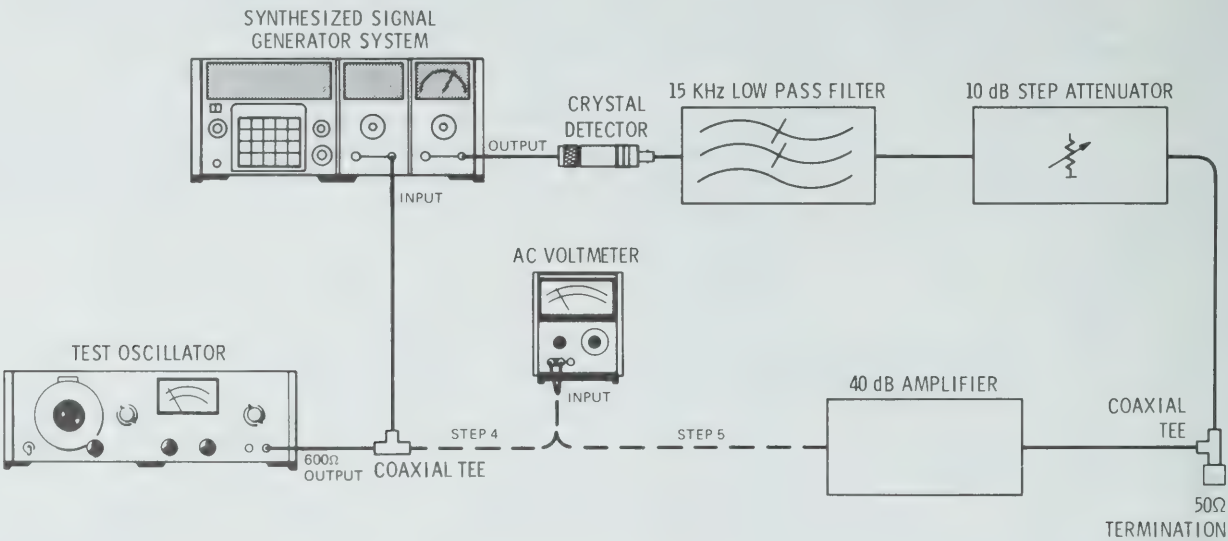

Figure 4-9. Signal-to-AM Noise Ratio Test Setup.
3. Connect the equipment as shown in Figure 4-9.